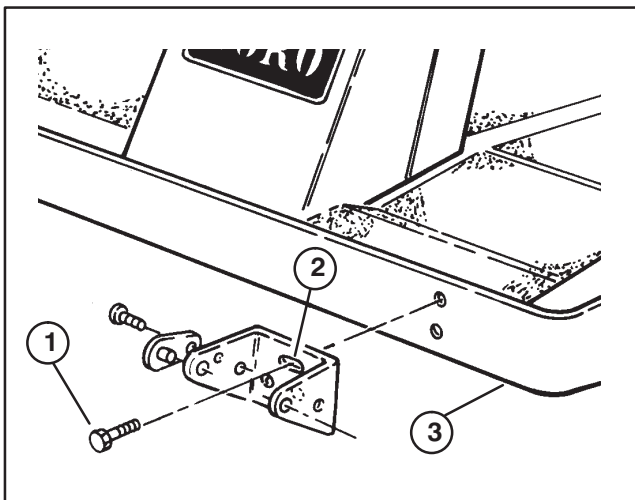

Figure 8
3. To install the mounting brackets, insert (2) 3/8–16 x 1" lg. flangehead capscrews through the slotted bracket holes. Thread the screws into the captivated frame nuts and torque to 45–50 ft–lb (Fig. 8).